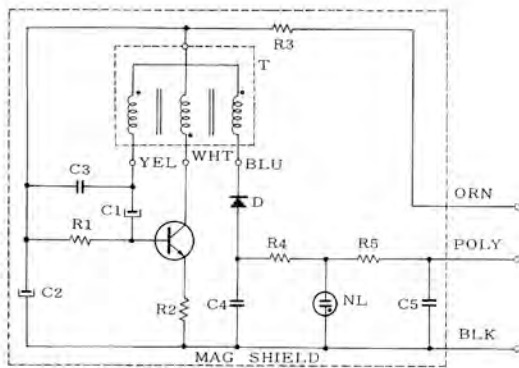

Figure-4 C-55 FET condenser microphone, schematic diagram dc-dc converter
3.4 Polarizing circuit (see figure-4)